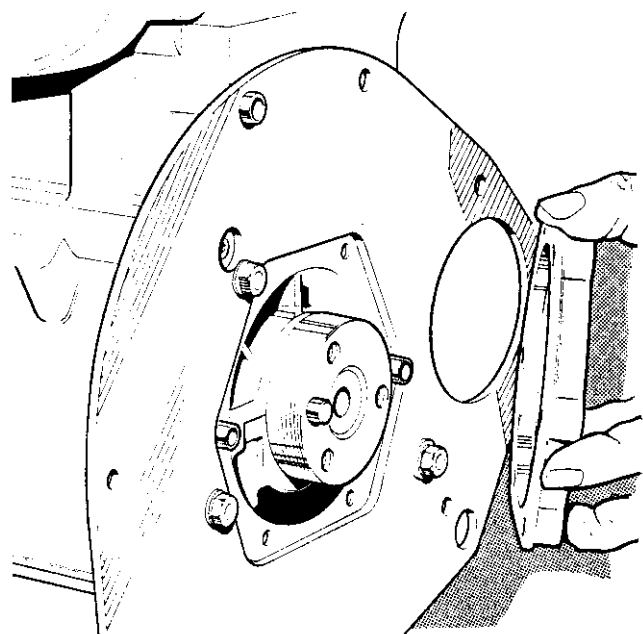

Figure 9 Fitting rear cover
4. Locate the two dowels of the rear cover in the cylinder block and then secure the cover with the six set screws and lock washers. (Figure 9)